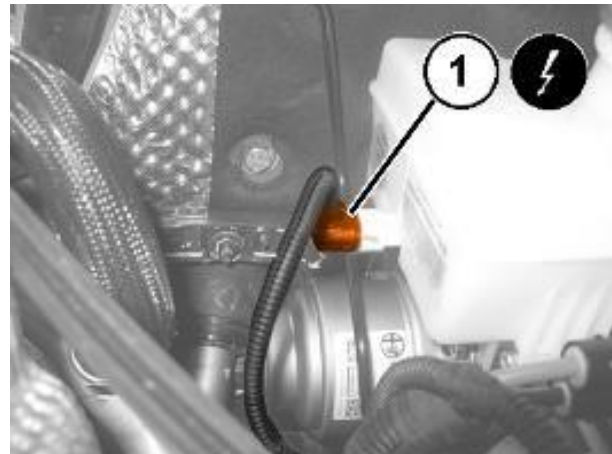

Figure 95 – Electrical Connector
39. Disconnect the electrical connection (1) of the brake fluid minimum level warning light switch (Figure 95).